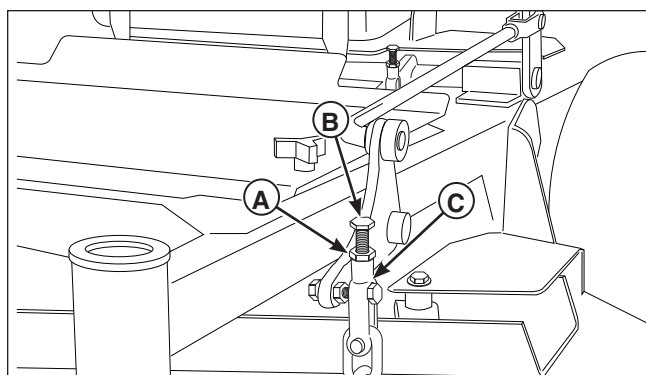

Figure 26. Deck Level Adjustment
7. Loosen the jam nut (A, Figure 26) on the adjuster bolt (B) in the chain hanger clevis (C). Turn the adjuster bolt until the correct measurements are achieved. Ensure that all four hanger chains are taut, then retighten the jam nut against the chain hanger clevis.